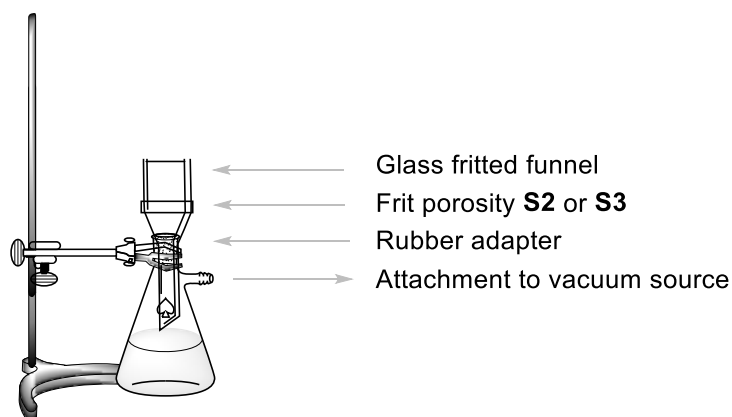

Figure 3. Setup for suction filtration.
2. Set up a vacuum filtration apparatus (Figure 3) using a glass fritted funnel with porosity **S2** (with white label) and secure it to a laboratory stand with a small clamp. Connect the suction flask to the vacuum source. Pour the suspension of product **B** (step No. IV.1) into the fritted funnel, let the solid settle, and then open the vacuum valve. *Caution:* notify the lab assistant before and after handling the valve! Wash the solid twice with 6 cm³ of deionized water, until the pH of the dropping filtrate is about 6. Let air flow through the precipitate for 5 minutes to pre-dry the product. Disconnect the vacuum source. Use the spatula to transfer white product B to a glass vial labelled **Student code B** and leave it uncovered on the bench to dry. Discard the filtrate to the sink drain and wash the suction flask.